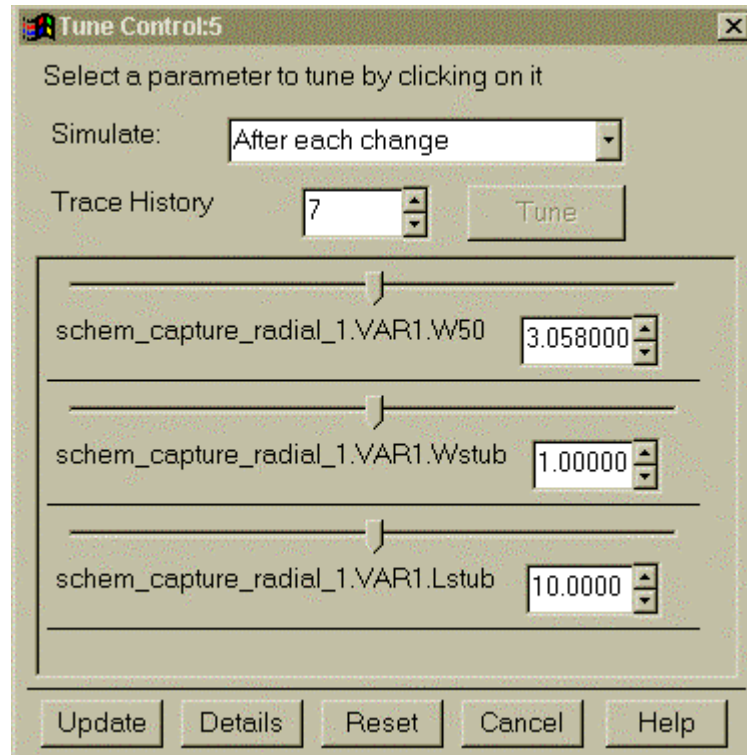

Figure 4. Tune control pop-up window.
- 3) At this point, the tune control pop-up window shown in Figure 4 should appear. You can change the settings so that a new simulation is performed after each parameter change is made, after pressing the Tune button, or as the sidebar is moved. (Note that the Tune button is not activated unless you choose the second option.) You can also set the Trace History – this parameter controls how many traces (corresponding to different sets of circuit parameter values) are retained in the graph window. For example, if you set the Trace History to 7 then you will see up to 7 different plots of S_{11} and S_{21} on the graph at any one time, as you continue to tune the various parameters.